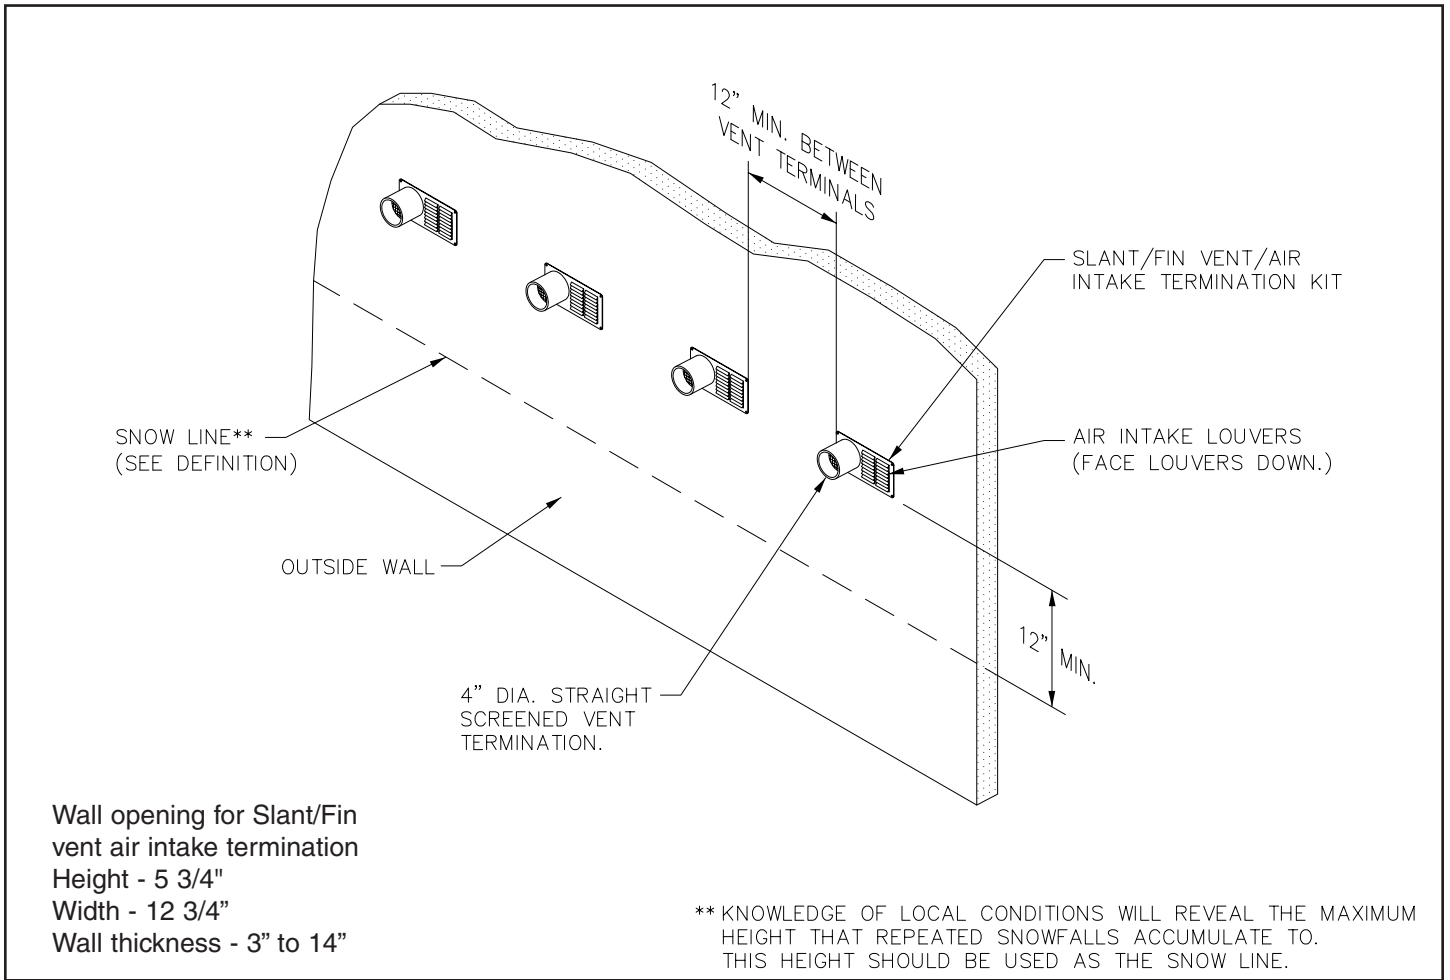

Figure 4.
- See figure 4, 5 & 6 for direct vent side wall venting using the Slant/Fin vent/air intake termination.